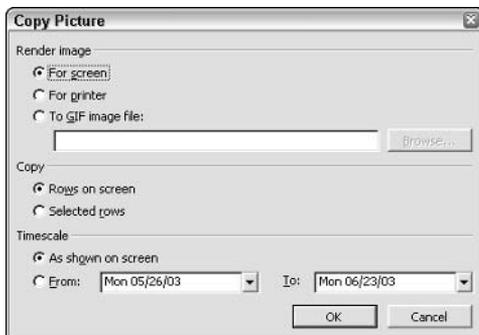

Figure 26-12: Use the Copy Picture dialog box to describe how you want to copy the picture.
2. Tell Project how much of your plan to copy. To copy only a portion of your plan, select the information that you want to copy. To copy all visible portions of your plan, click the Copy Picture button on the Standard toolbar. The Copy Picture dialog box appears, as shown in Figure 26-12.